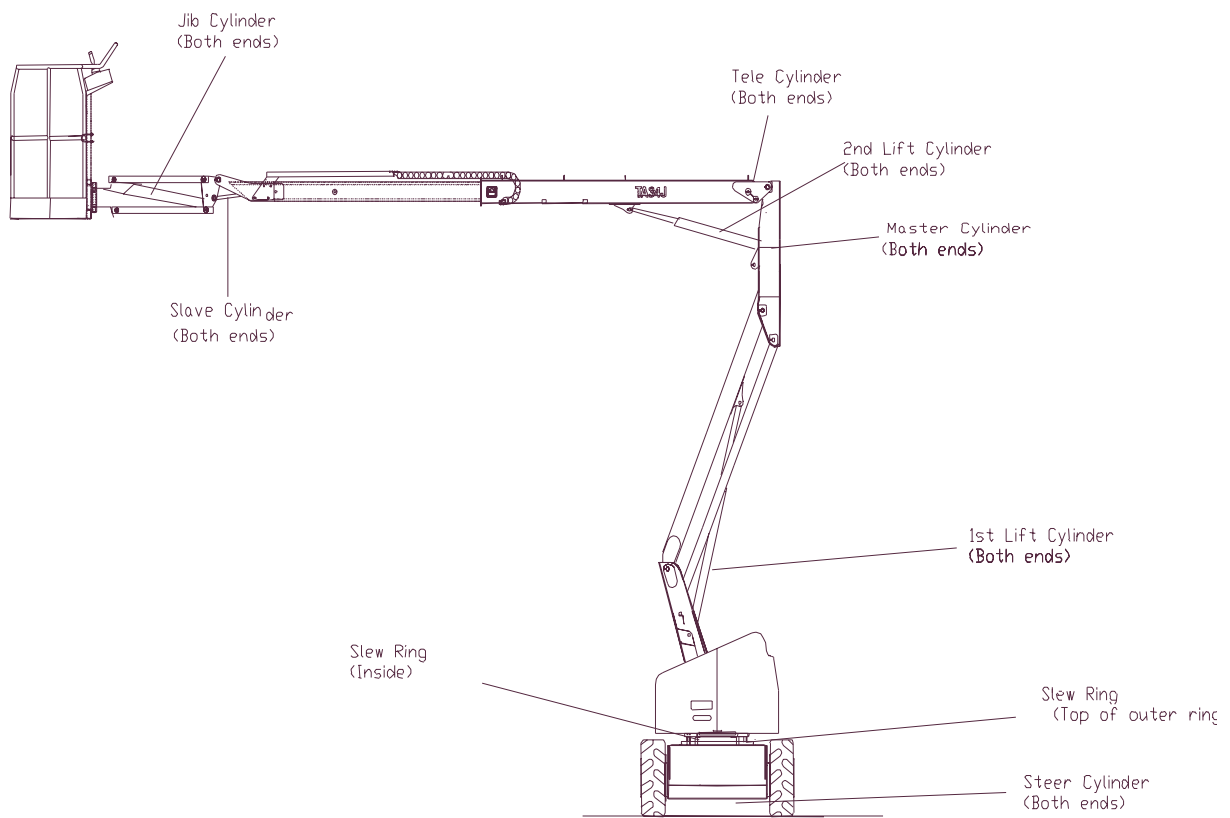

Figure 5.2 - Location of Grease Nipples
- (g) Grease cylinder pivot pins, steering pivot pins and slew ring (Figure 5.2, see also section 5.4).
Check all pivot pins for security. Grease those pivot pins as shown in Fig 5.2.